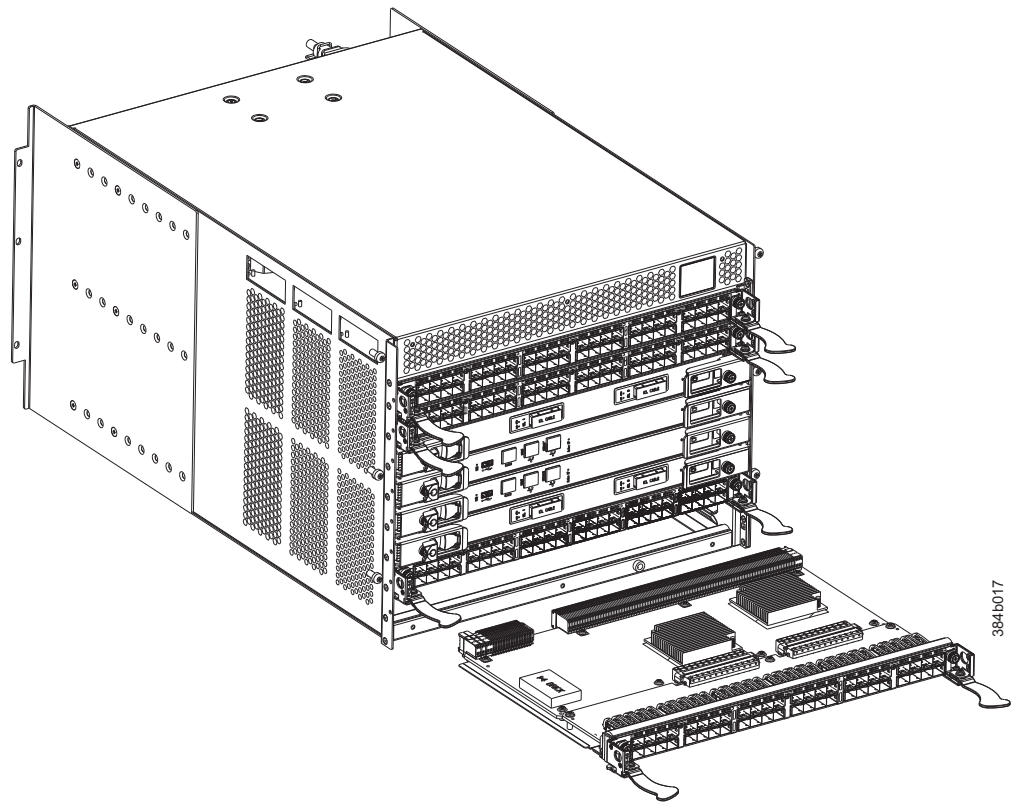

Figure 33. Port blade removal and installation (48-port blade shown as example)
- **For FC8-16, FC8-32, FC8-48, and FC8-64, port blades and the FX8-24 and FCOE10-24 application blades:** Unscrew the two thumbscrews from the left and right ejectors on the blade using the Phillips screwdriver. Unscrew the left thumbscrew until it pops out. This initiates a hot-swap request. Adjust the ejectors to the open position (Figure 33),
- For FC8-16, FC8-32, FC8-48, and FC8-64, port blades and the FX8-24 and FCOE10-24 application blades Open the ejectors by pulling them toward the center of the blade face. Pull the blade out of the chassis using the ejectors (Figure 33 on page 65).